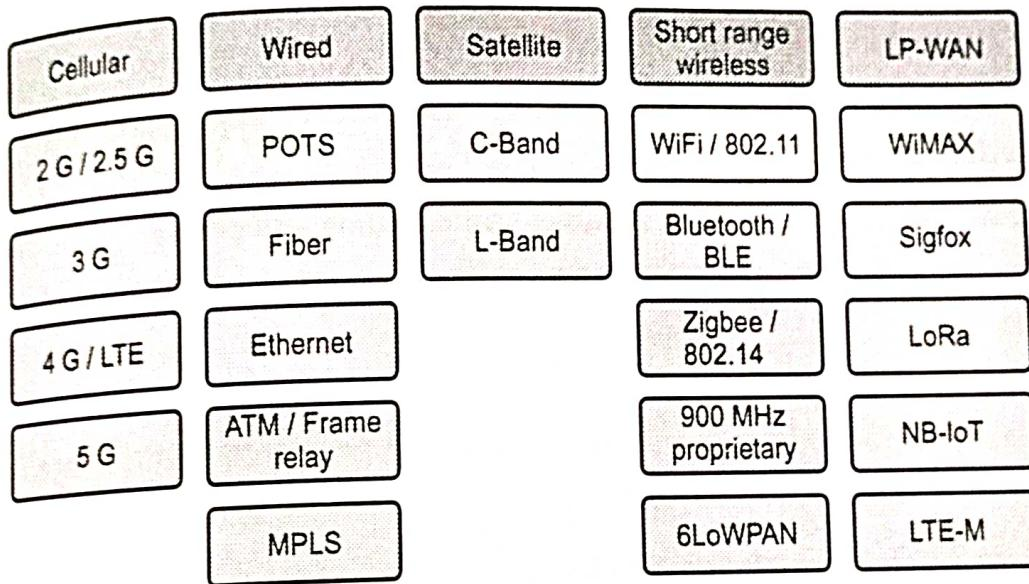

Fig. 4.11.1 Types of cellular IoT
- c) User interface (UI) : The UI allows the user and software to connect. It can be a touch screen or keyboard or any other device that enables the user to interact with the machine.
- Fig. 4.11.1 shows types of cellular IoT.